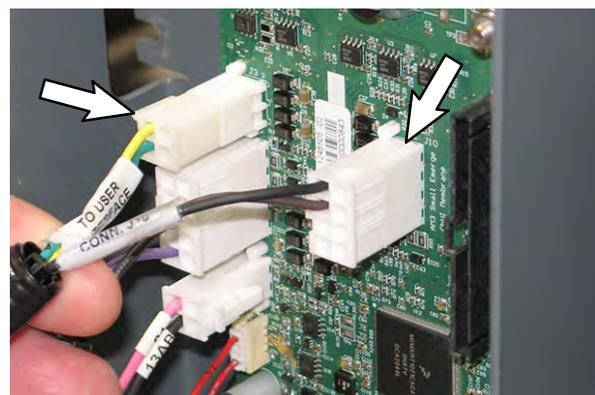
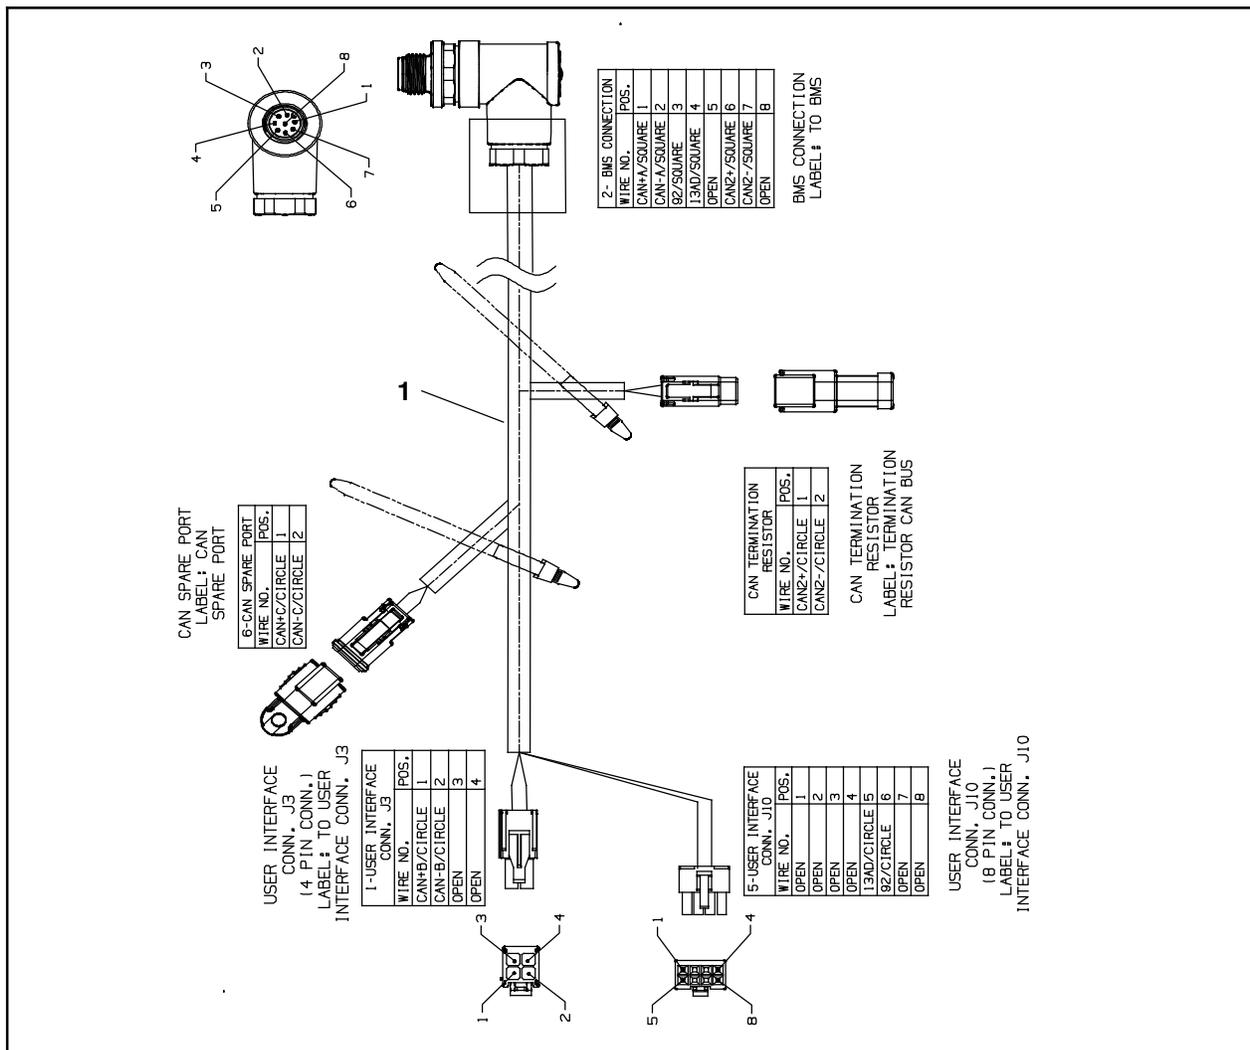

FIG. 6
FIG. 7
3. Disconnect the signals UI to BMS electrical harness from the communication board J3 and J10 terminals. Discard the removed UI to BMS electrical harness. (Fig. 6)
4. Connect the new signals UI to BMS electrical harness (1) to the communication board J3 and J10 terminals. (Fig. 6/Fig. 7)
5. Route the new UI to BMS electrical harness (1) as the removed harness had been routed and connect the UI to BMS electrical harness to the lithium battery communication terminal. Torque the UI to BMS electrical harness ring to 0.6 Nm (0.44 ft. lbs.). (Fig. 3/Fig. 7)